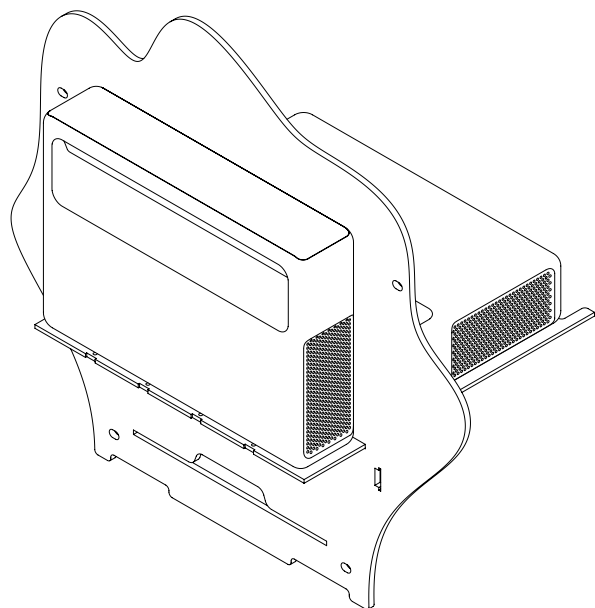

Figure 7.
- Open the structure from panel 1 to fix the vertical projector: fit it in the slots and screw it on the back with 2 M4 screws (Figure 7)